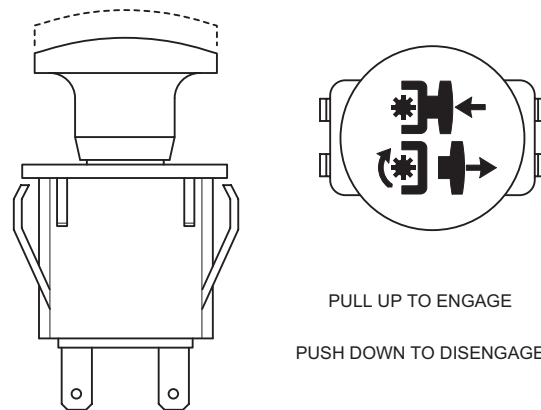

Figure 4-6. Cutter Engage Switch
2. Engage the deck drive by pulling out on the yellow switch, located on the instrument panel, to the engage position. See Figure 4-6.